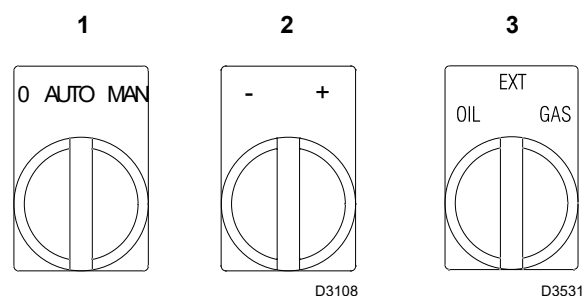

Fig. 34
Turn off the remote controls and set the switch 1)(Fig. 34) to "MAN".
- 1 with selector 3)(Fig. 34);
Placing the selector 3)(Fig. 34) on EXT the function for selecting the fuel remotely is active.
Turn the selector 2)(Fig. 34) "output reduction", and keep "-" pressed until the servomotor has closed the air damper and the gas butterfly valve at 35° (adjustment made in the factory).
- Switch on the burner, with the selector on the control panel on manual 1)(Fig. 34).
- At this point shift the selector 3)(Fig. 34), to **GAS** and check that the gas operation is operating correctly at the desired output.